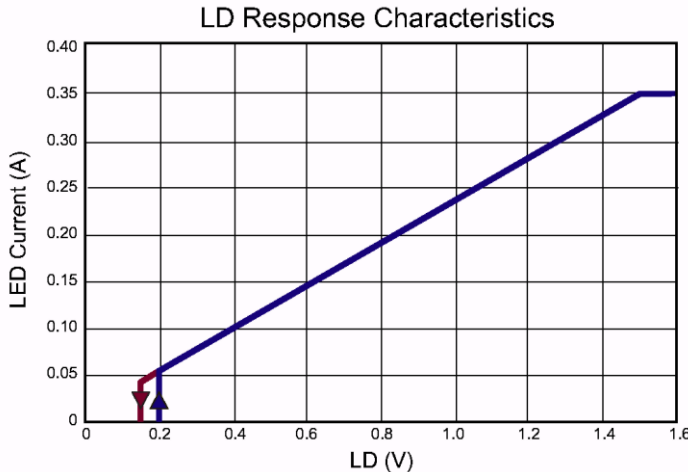

Fig.3. Typical linear dimming response of an An9961 LED driver
When the voltage at LD falls below 1.5V, the internal 272mV reference to the constant-current feedback becomes overridden by $V_{LD} \cdot 0.181$. As long as the current in the inductor remains continuous, the LED current is given by the equation (3) above. However, when V_{LD} falls below 150mV, the GATE output becomes disabled. The GATE signal recovers, when V_{LD} exceeds 200mV. This is required in some applications to be able to shut the LED lamp off with the same signal input that controls the brightness. The typical linear dimming response is shown in Fig.3.